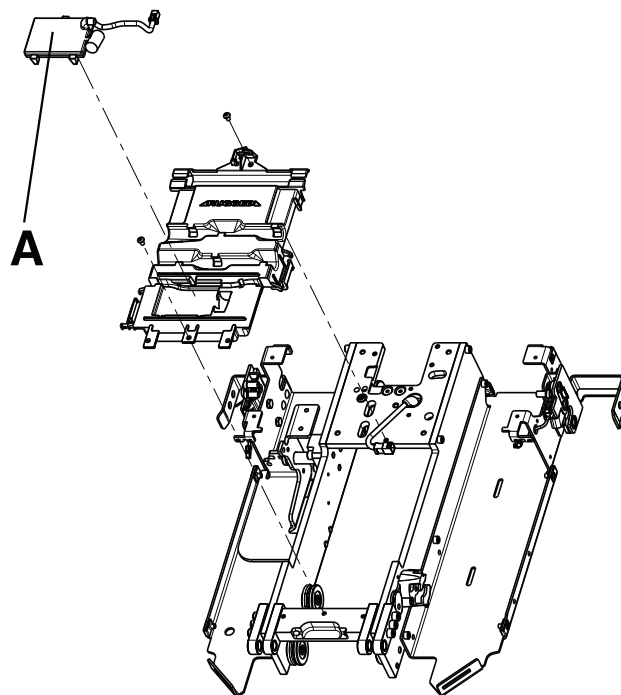

Figure 20: Communication board assembly
4. Lift up on the trolley communication board (A) to remove (Figure 20 on page 53). Discard the communication board.